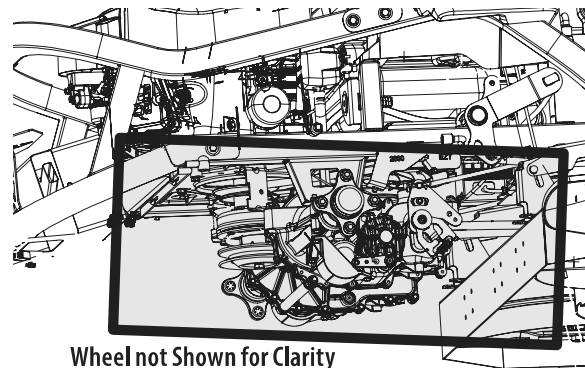

Figure 33
- Clean around and near the transmission, axle and the fan area (Figure 33).